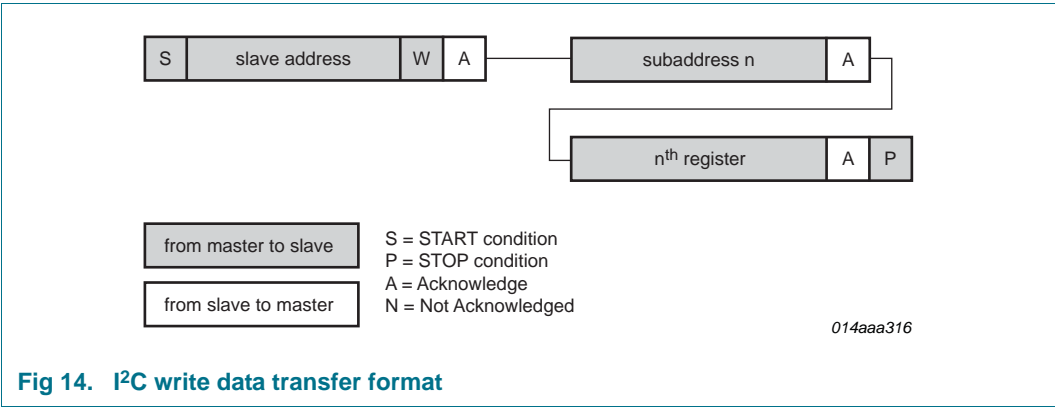
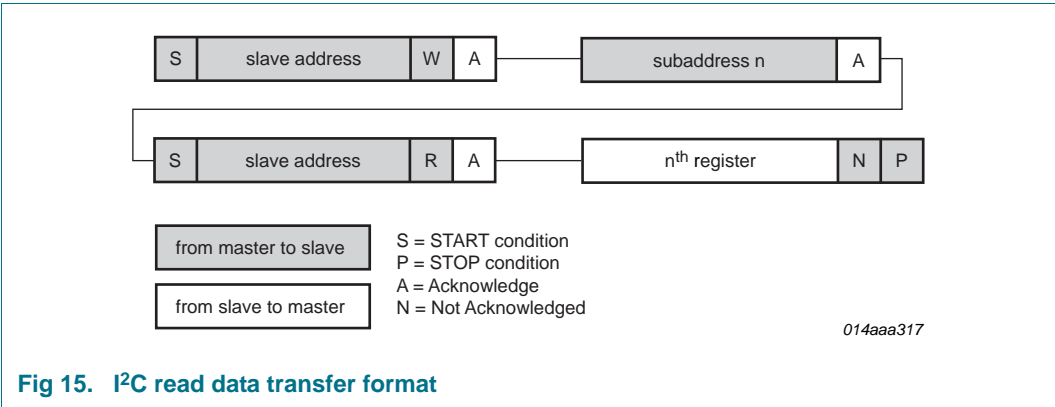

Fig 14. I²C write data transfer format
Fig 15. I²C read data transfer format
After a START condition, a valid hardware address must be sent to the SSL3252 followed by a subaddress and n data bytes. See Figure 14 and Figure 15 below. For the format and the timing of the START condition (S), the STOP condition (P) and the Acknowledge bit (A), refer to the user manual *UM10204*.
After the subaddress the data bytes are sent. The definition of the data transfer is given in Figure 14 and Figure 15. After each data byte an acknowledge is given and the subaddress is automatically incremented to the next subaddress.